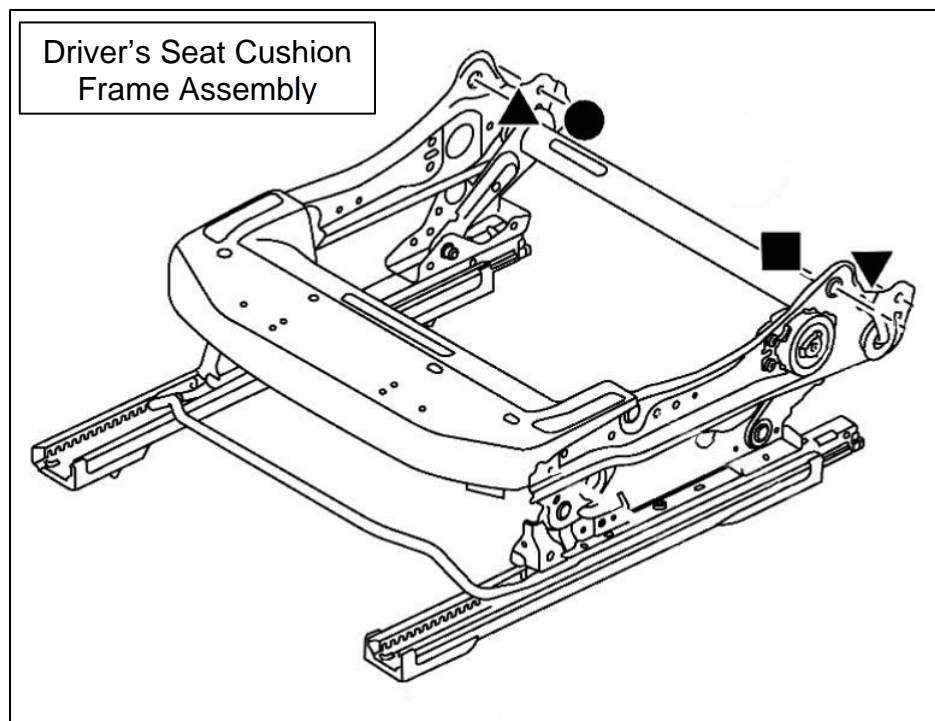

Figure 11
11. Replace the Driver's Seat Cushion Frame Assembly (Figure 11) ONLY if the feeler gauge can be inserted between the seat track and the seat slide at one or more of the locations shown in Figure 10 on page 4.